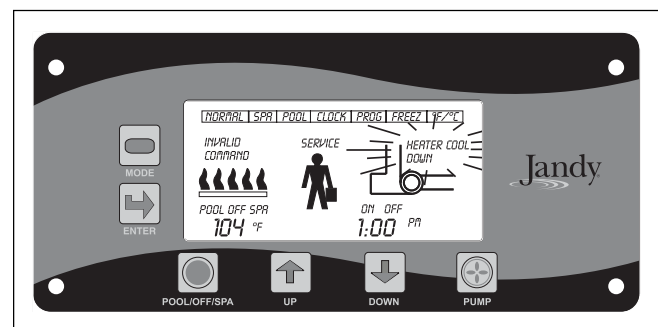

Figure 19. LJ controller display
1. Turn the pump 'OFF' by pressing the PUMP key so that the display shows that the pump is 'OFF'. If the heater was running it should go off immediately and the pump will run in the 'COOL DOWN' mode for 5 minutes. If the heater has been running within the last 5 minutes, the pump will continue to run for the remainder of the 5 minute cool down period (see Figure 19).